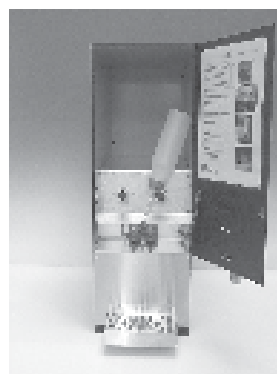

Fig. 4.
2. Fill the rinsing bottle with a solution of hot water and a sanitising agent. Add two drops of washing-up liquid. Connect the tube to the nozzle and wash it through. (Fig 4)